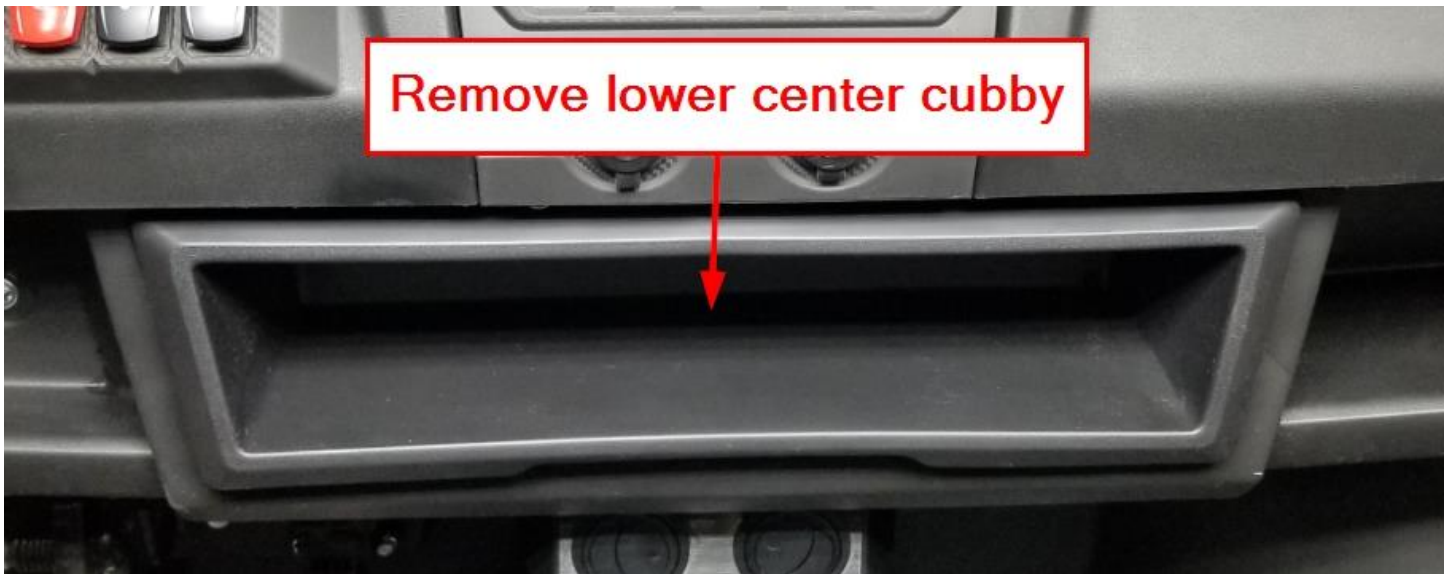

Figure 2
- Remove the lower center cubby shown in Figure 2 and set aside.